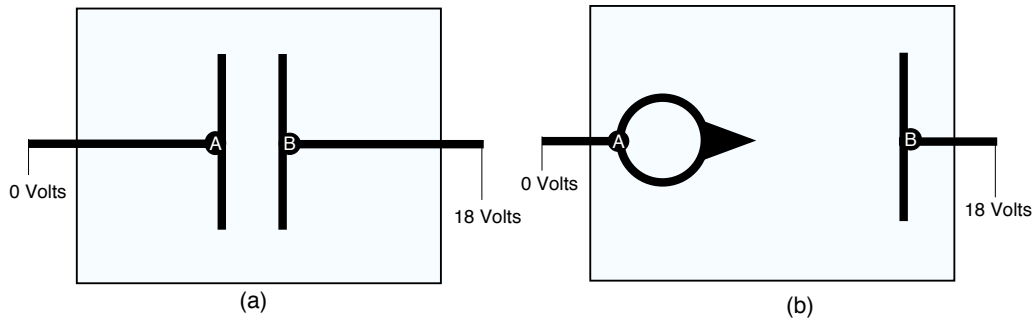

Figure 2: Electrode configurations for (a) parallel plates and (b) a lightning rod.
8. Repeat steps 1-7 for the two configurations shown in Fig. 2.